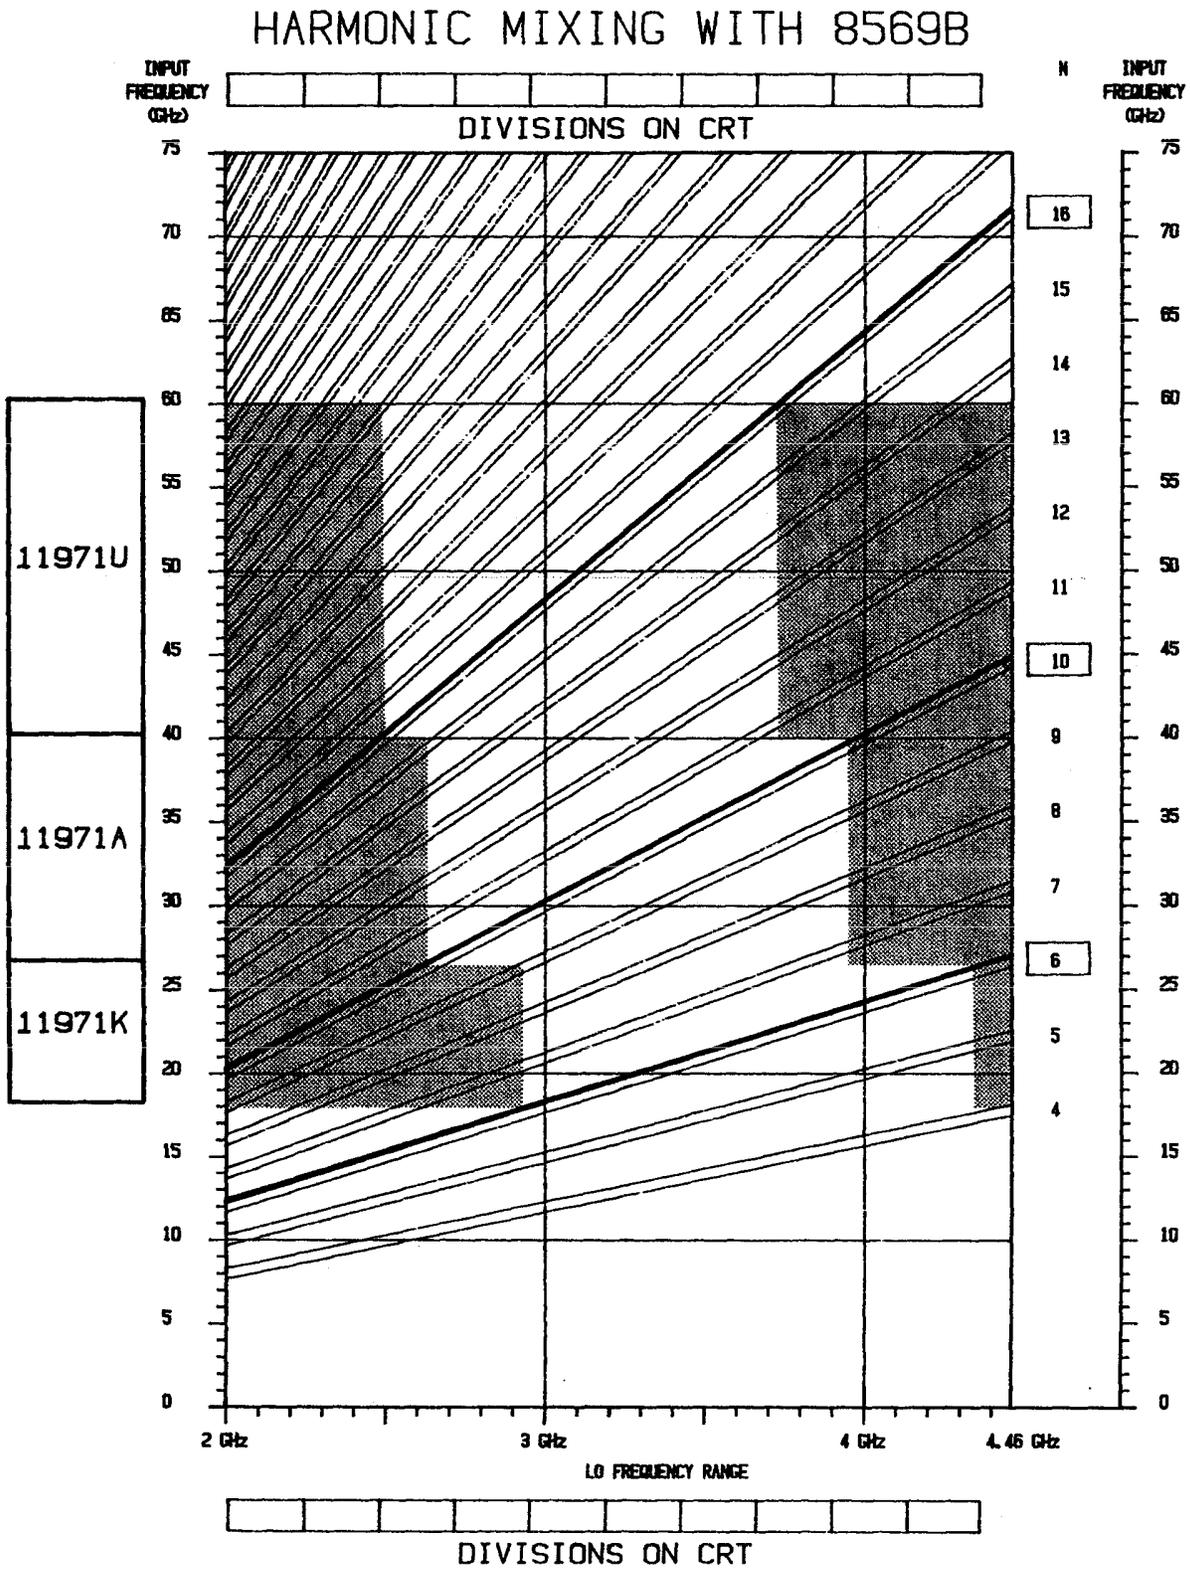

Figure 2-4. Harmonic Mixing Tuning Curves for HP 8569B
Knowledge of the harmonic mixing process makes the "image frequency method" easier and faster to use. Figure 2-3 shows a typical display on the HP 8569B with a 24 GHz signal applied to the HP 11971K Mixer. A reduced version of the HP 8569B Spectrum Analyzer harmonic mixing tuning curves (shown in Figures 2-4 and 2-5) is included in Figure 2-3 to aid in identifying the signals present on the display. HP 11971K Mixers are factory-calibrated for the 6+ mixing mode, which gives them a corresponding LO frequency range of 2.95 to 4.36 GHz. By reference to the tuning curves in Figures 2-4 and 2-5, it can be determined that the signals displayed in approximately the first four divisions of the display are the result of the RF mixing with LO frequencies of less than 3 GHz. Because these signals are obviously not the desired responses, there is no need to investigate them further. The large response pair near the fourth division of the CRT can be seen to be the result of the RF input mixing with the 8th harmonic of the LO. The desired 6+ harmonic response is the large response pair near the 8th division of the CRT.
The shaded areas on the chart in Figures 2-4 and 2-5 represent the regions for each HP 11971 Series Mixer where the responses are imprecise, a result of the RF mixing with LO frequencies outside the LO range of the mixer. Any signal falling inside a shaded area can be ignored.
2. Using the chart in Figures 2-4 or 2-5, determine the limits on the display within which the desired image pair can appear.